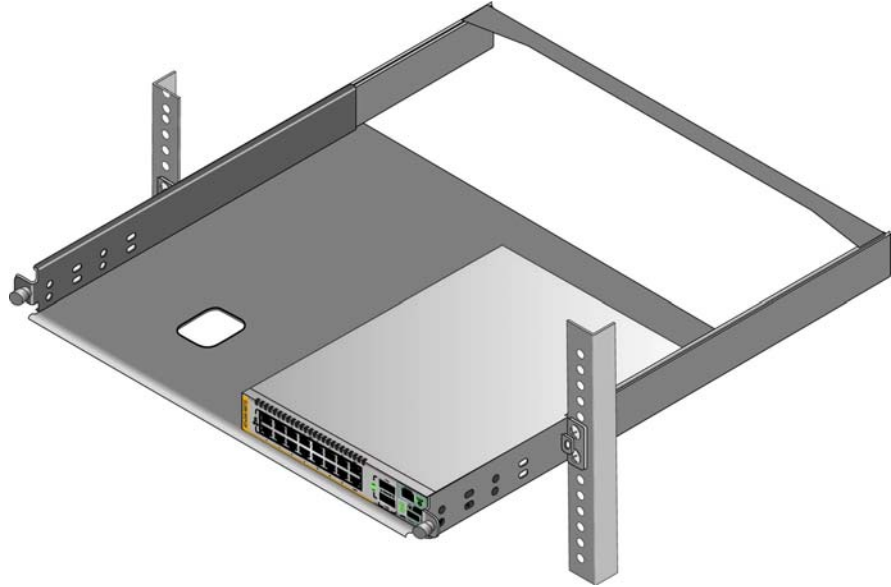

Figure 29. Placing a Switch in the AT-RKMT-J15 Bracket
7. Place the switch in the left or right side of the bracket, with its front panel facing the front of the bracket. If you are installing only one switch, you may install it on either the left or right side. Refer to Figure 29 on page 67.